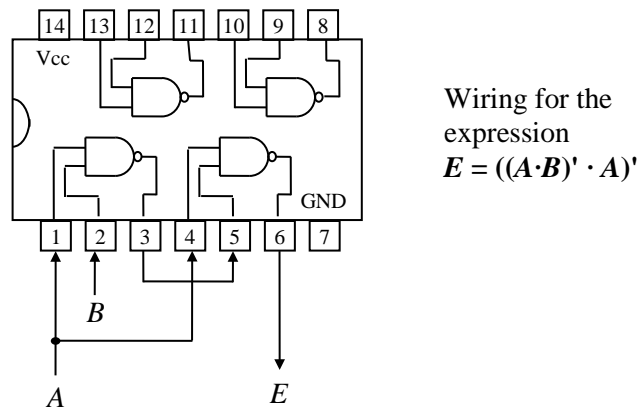

Figure 1.
- Please prepare layout diagrams before the lab for your own use. See Figure 1 below. You need not hand in these diagrams if they are not asked for, but they are useful for wiring up your circuit, especially for complex ones.